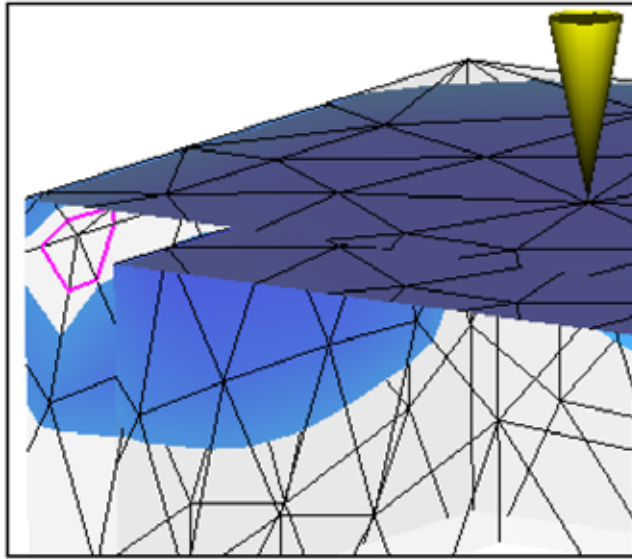

Figure 169: Air trap display, with fill time overlay and a cutting plane
- An example of an air trap is shown in Figure 169.
To create Figure 169, the air trap result was overlaid the fill time result, with the model set to transparent, and the element lines on. In addition, cutting planes were turned on in two planes.